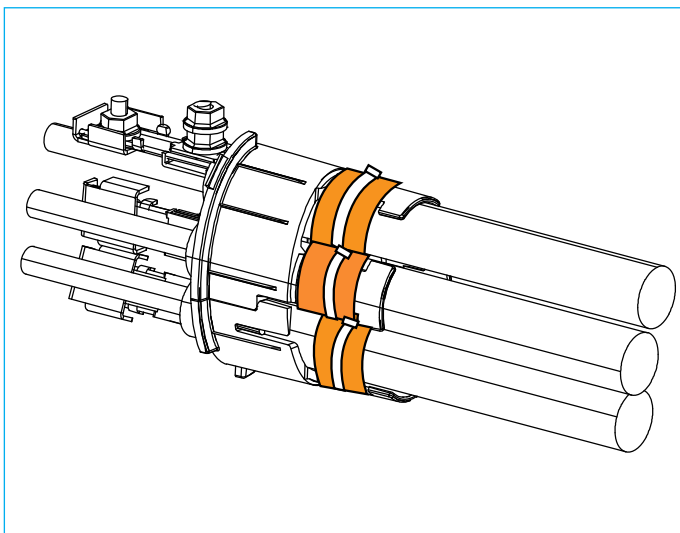

Figure 27.
9.2.5.9 If installing three cables, add tabs (if needed) and wrap with tape and cable ties the two side cables to the side prongs. Snap the two pieces of the spacer together. Place a tab on one of the middle prongs (if needed) and wrap the third cable to the prong with tape and a cable tie.(Figure 27)